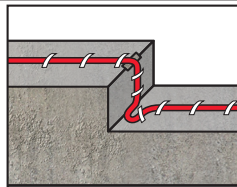

fig. 1
- Rapid Glue is applied on the Connection Pipe which is then inserted approximately halfway into the SikaFuko® ECO-1. **(fig. 1)**
- SikaFuko® ECO-1 is installed on the hardened concrete surface in the centre of the construction joint, with at least 100 mm (4 in) concrete cover. Reduce 90° angles to 45° and detail 90° upturns (**fig. 1**)